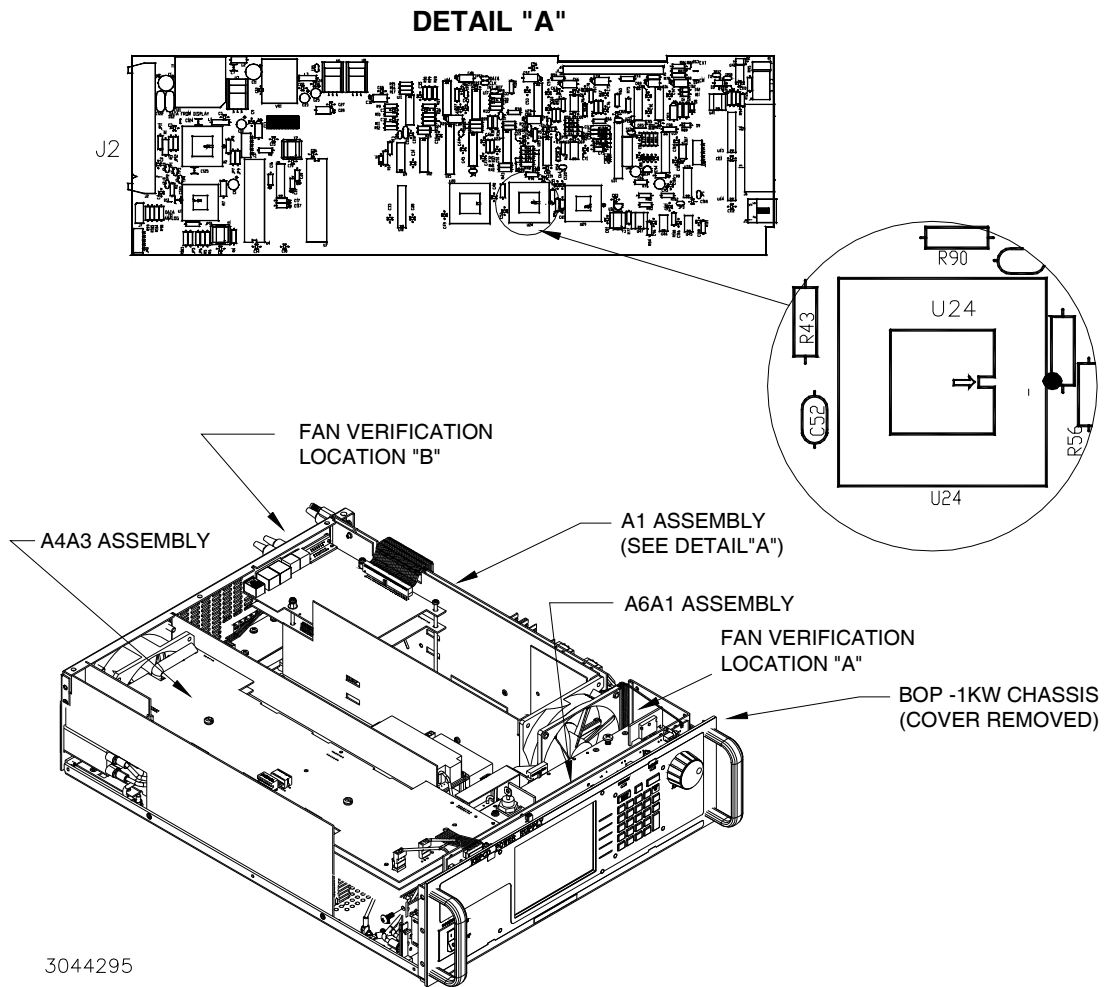

FIGURE 2. ASSEMBLIES A1 AND A6A1 LOCATIONS AND DIGITAL BOARD A1 PROM U24 LOCATION
3.3 DIGITAL BOARD A1 PROM U24 REPLACEMENT (SEE FIGURE 2)
1. On Digital board A1, locate PROM, U24 (see Figure 2).
6. Insert the PROM into the socket, insuring the dot on the chip is oriented as shown in Figure 2.
1. Power up the unit and hold a piece of paper near the vent holes at the top cover near the front panel (see Figure 2, Fan Verification Location "A"). Verify that the paper is suctioned down towards the cover.
2. Hold a piece of paper to the rear panel (see Figure 2, Fan Verification Location "B") and verify the paper flutters indicating it is being expelled from the unit